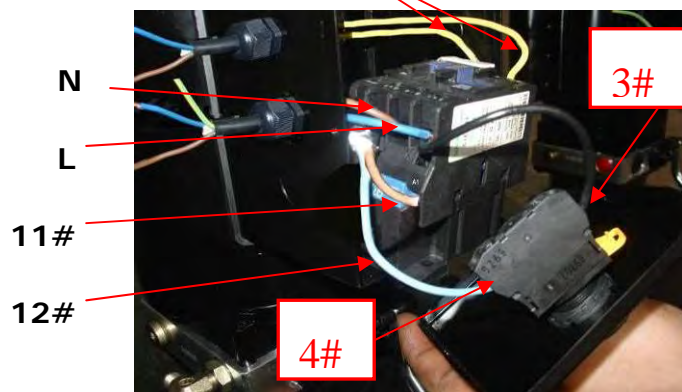

Fig. 26
4. Connect the Limit Switch: Remove the line of connecting terminal **4#** on the control button and **A1** on the AC contactor first (See Fig. 25), then connect wire **12#** on the limit switch with terminal **4#** on the control button and connect wire **11#** with terminals **A1** on the AC contactor (See Fig. 26).